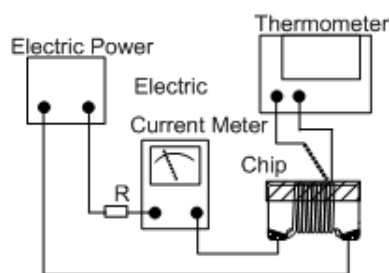

Fig.5.3.5-1
- Definition of Rated Current (I_r): I_r is direct electric current as chip surface temperature rose just 20°C against chip initial surface temperature (T_a) (see **Fig. 5.3.5-2**).